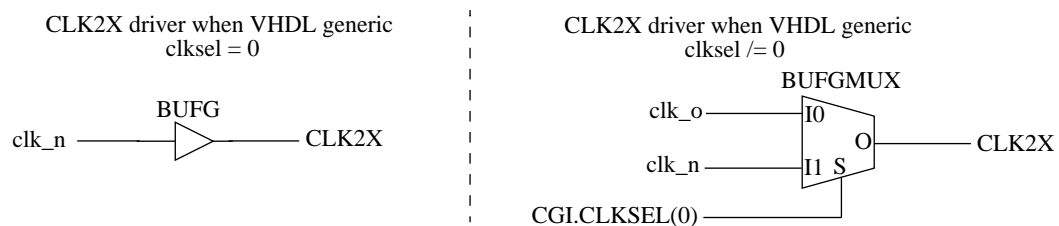
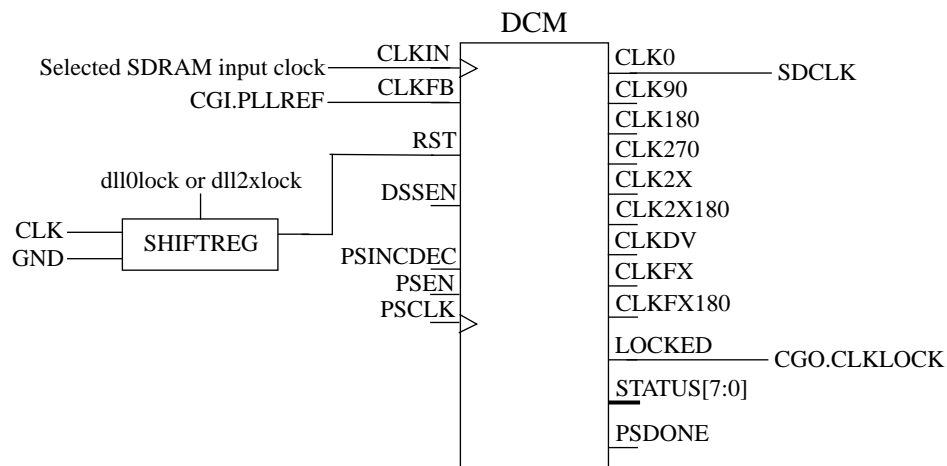

Figure 48. Spartan 3/e selection of CLK2X clock when VHDL generic *clk2xen* is non-zero
Figure 51. Spartan 3/e generation of SDRAM clock
shift register connected to the CLK2X DCM's RST input are set to '1'. When the dll0lock signal is asserted it will take four main clock cycles until the RST input is deasserted. Depending on the value of the *clk_{sel}* VHDL generic the core's CLK2X output is either driven by a BUFG or a BUFGMUX. Figure 48 shows the two alternatives and how the CGI.CLKSEL(0) input is used to selected between the CLK0 and CLK2X output of the CLK2X DCM.
If the SDRAM clock is enabled, via the *sdramen* VHDL generic, and the clock generator is configured to use clock feedback the DCM shown in figure 51 is instantiated. This DCM has the same attributes as the CLK2X DCM. The input to the SDRAM DCM input clock is determined via the *clk2xen* VHDL generic. If the VHDL generic is set to 0 the input is the main CLK, if the generic is set to 1 the input is the *clk_p* out of the CLK2X DCM shown in figure 48. If the *clk2xen* VHDL generic is set to 2 the clock input to the SDRAM DCM depends on the *clkssel* VHDL generic. The input in this last case is the CLK2X output shown in figure 50.
If the SDRAM clock is disabled (*sdramen* VHDL generic set to 0) or the core has been configured not to use clock feedback (*noclockfb* VHDL generic set to 1) the driver of the core's SDCLK output is determined by the value of the *clk2xen* VHDL generic. If the *clk2xen* VHDL generic is set to 2, the SDRAM clock output is the same as the CLK2X output shown in figure 48, in other words it also depends on the *clkssel* VHDL generic. If the *clk2xen* VHDL generic has any other value the SDCLK output is the same as the core's CLK output.